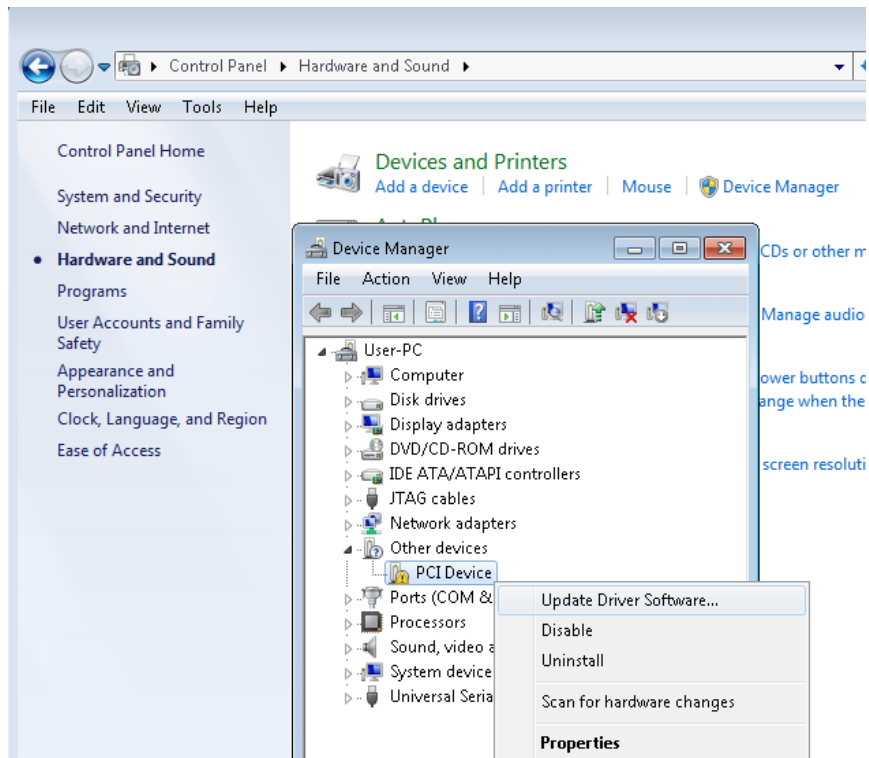

Figure 4-3 Screenshot of launching Update Driver Software dialog
7. Click the Control Panel menu from the Windows Start menu. Click the Hardware and the Sound item before clicking the Device Manager to launch the Device Manager dialog. There will be a PCI Device item in the dialog, as shown in **Figure 4-3**. Move the mouse cursor to the PCI Device item and right click it to select the Update Driver Software... item.